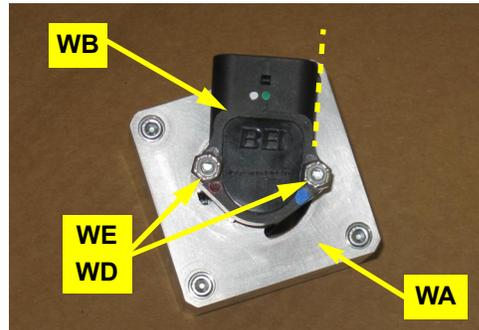

Figure 1a: Prepared WAS housing/connector
- a. Using the provided hardware **WE** (nuts) and **WD** (bolts), attach the WAS wire connector **WB** to the WAS housing **WA**. Install the bolts up through the bottom of the housing. Mount **WB** with its right edge in line with the right front corner of **WA** (Figure 1a).